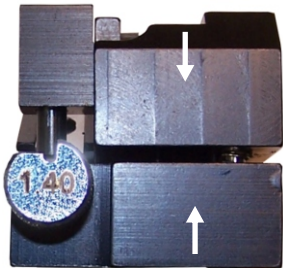

Fig.2
1. Ensure the proper tube insert based on the predetermined buffer tube size is assembled in the tool and located properly. From its operating position shown in the photo above, the insert is rotated 1/4 turn clockwise to insert it or remove it from the tool. When switching over tube inserts, always check the insert alignment in the tool prior to the first use. Align the insert by eye as close as possible, then close the tool halves, allowing the shaving blade to precisely align it. Figure 2 shows the front of the tool with a properly aligned insert. The insert is squarely aligned to the pressure pad and the shaving blade.